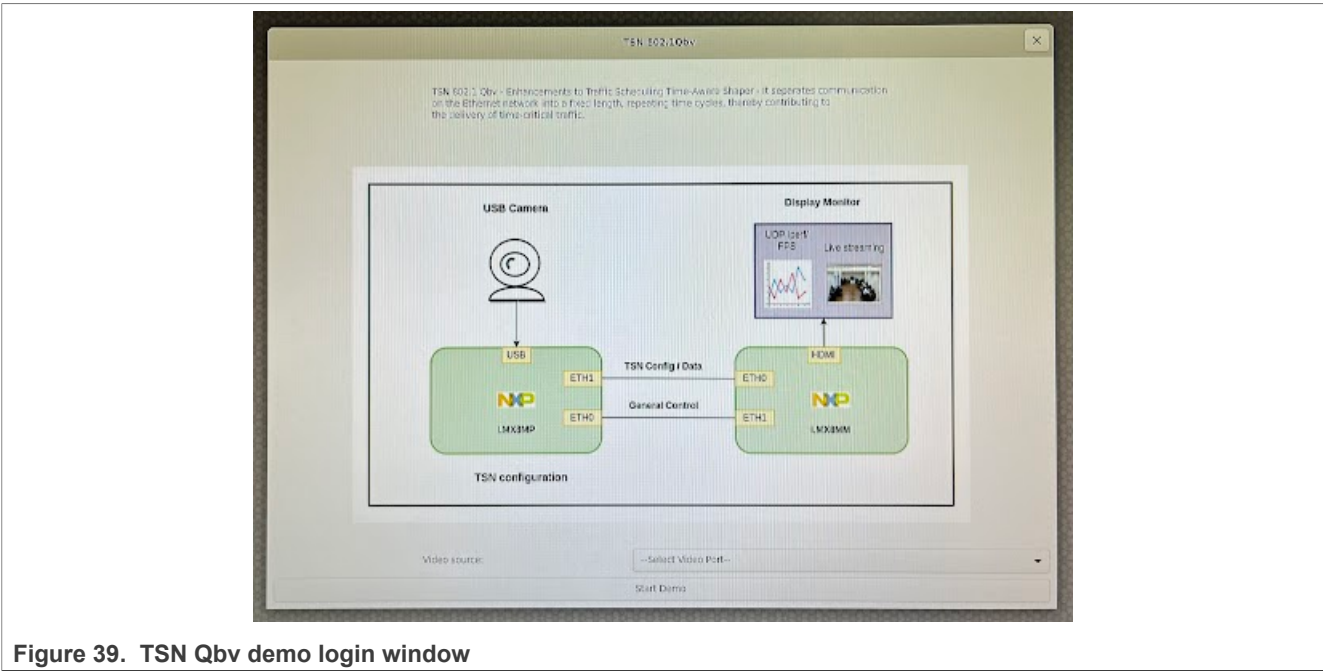

Figure 39. TSN Qbv demo login window
- If the connections are successful, the TSN Qbv demo login window shows up, as shown in Figure 39.